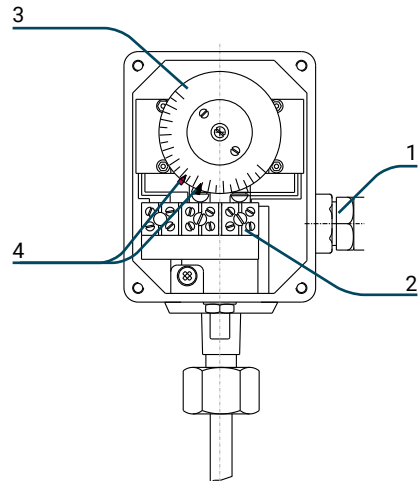

Figure 2
2. Insert the cables inside the device through the cable gland positioned in the right side of the device (fig. 2/1)
3. Connect the cables on the contacts through the terminal block in fig. 2/2
4. In order to set the contacts, keep the disc (fig. 2/3) and move the indicators of the contacts (fig. 2/4) at the desired operation temperature
2. Following the indications on the terminal block (fig. 2/2), based on the position of the pointers of switches (fig. 2/4) and based on the temperature measured by the thermostat, verify that the contacts are in the correct status (normally open or normally closed).
3. Keeping the black disk (fig. 2/3) hold, move the pointers of the switches (fig. 2/4) above or below the temperature indicated by thermostats in order to make the commutation of the switches.
It's not allowed to manually move the disk in fig. 2/3 in order to verify the contacts, because it can damage the device.